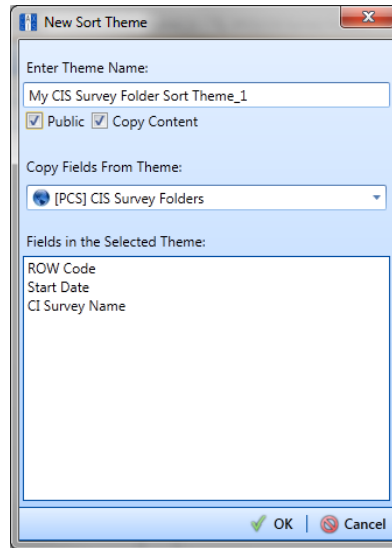

Figure 6-15. New Sort Theme
- 6 Click the **+** **Add** button to open the *New Sort Theme* dialog box (Figure 6-15).